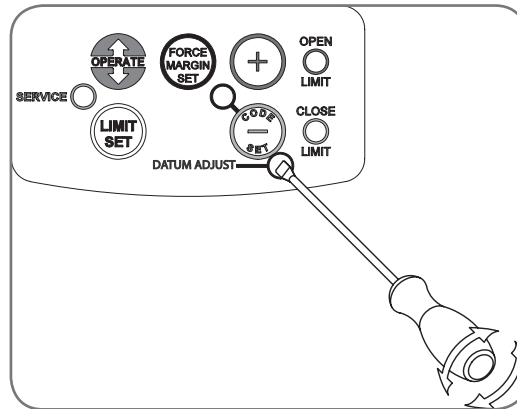

Fig. 24
- Using a small blade screwdriver, turn the DATUM ADJUST screw until the SERVICE light comes on (Fig. 24).